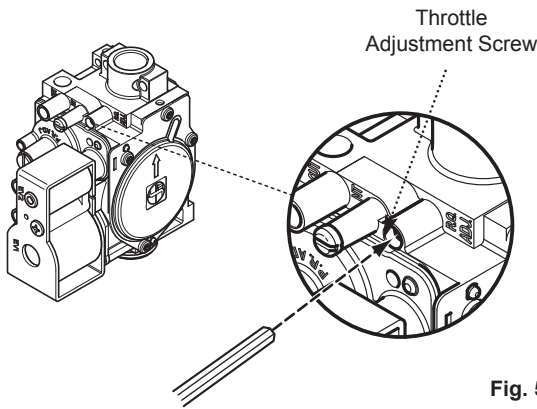

Fig. 58
**i** If a new gas valve has been fitted it is recommended that to assist the boiler to light prior to final setting, use a suitable hexagon key to wind out the Throttle Adjustment Screw (Fig. 58) until it is flush with the valve body, then turn the screw 4 full turns clockwise. If the boiler will not light, or the correct CO2 cannot be achieved contact the Baxi Customer Support.